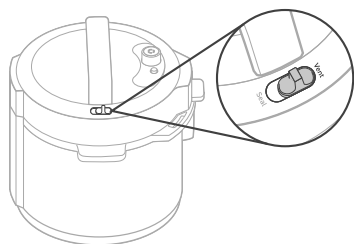

Figure 1.2
- When cooking with a non-pressurised cooking function, always move the steam release switch to 'Vent'. **[Figure 1.2]**